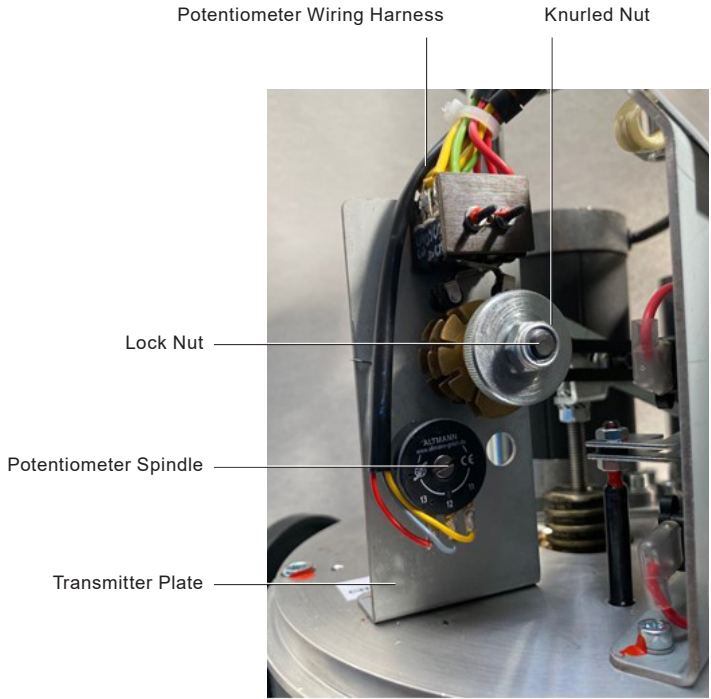

Fig. 13 Potentiometer Installation and Adjustment (8 kN+ [1,798 lbf+])
- Refer to Figure 13 Potentiometer Installation and Adjustment (8 kN+ [1,798 lbf+]) for product orientation